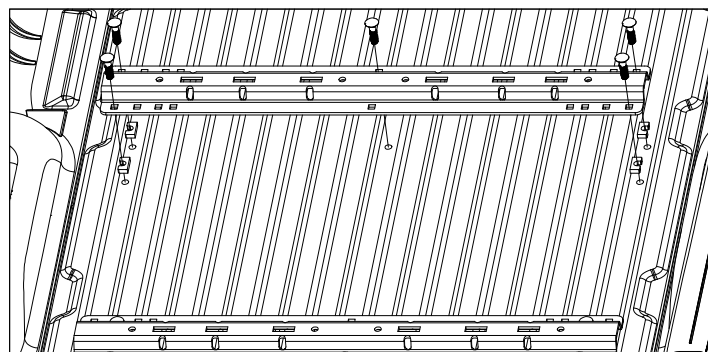

Figure E5: View looking into truck bed from rear of truck.
5. **Install forward mounting rail.** Refer to the "INSTALL MOUNTING RAILS" section, Step 1, and install the forward mounting rail. Notice that the U-shaped spacer placement is different. See Figures E5 and E6.